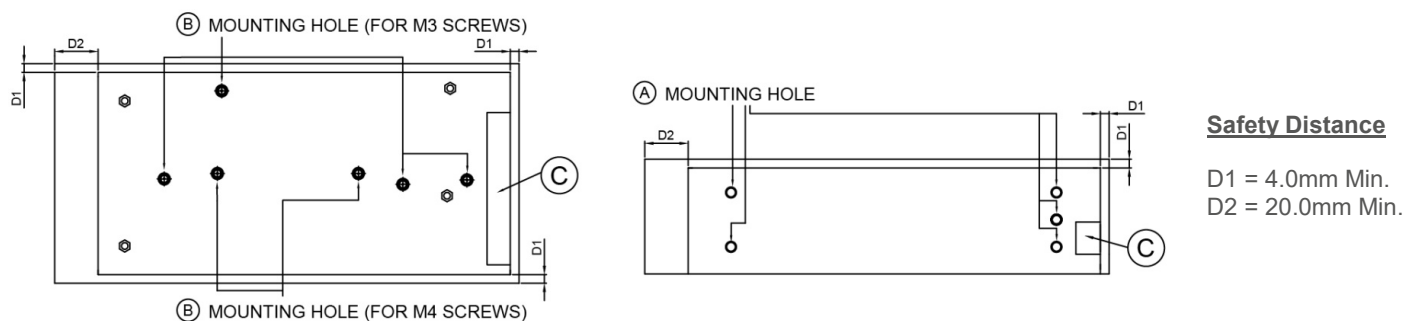

Fig. 3 Mounting Hole Locations and the Safety Distance
- Ⓐ Side Mounting: Fig. 2 and Fig. 3 show the mounting hole locations for power supply assembly onto a metal mounting surface. The power supply shall be mounted on minimum of 4 mounting holes using M4 screw of maximum 4mm length (Refer to Fig. 4). This is to maintain a safety distance between the screw and internal components.
- Ⓑ Base Mounting: Fig. 2 and Fig. 3 show the mounting hole locations for power supply assembly onto a metal mounting surface. The power supply shall be mounted on minimum of 4 mounting holes using M3 screw or 2 mounting holes using M4 screw of maximum 4mm length (Refer to Fig. 4). This is to maintain a safety distance between the screw and internal components.